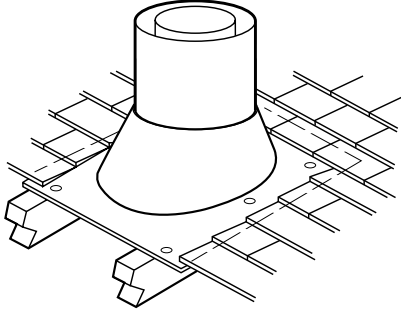

Figure 27
**Step 7.** Secure flashing by nailing along the perimeter into roof using 8d nails or equivalent fasteners. If shingled roof, slide upper end and sides of roof flashing under shingles (trim if necessary), seal the top and both sides of the flashing to the roof with roof caulking. Cover fastener heads with roof caulking (Figure 27).